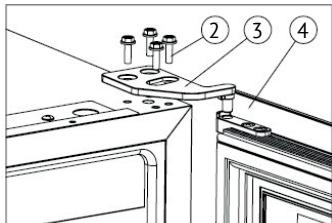

Figure 1
- ➲ Unscrew the M5*16 screws ②, dismantle the right upper hinge ③, and remove the door (Figure 1).